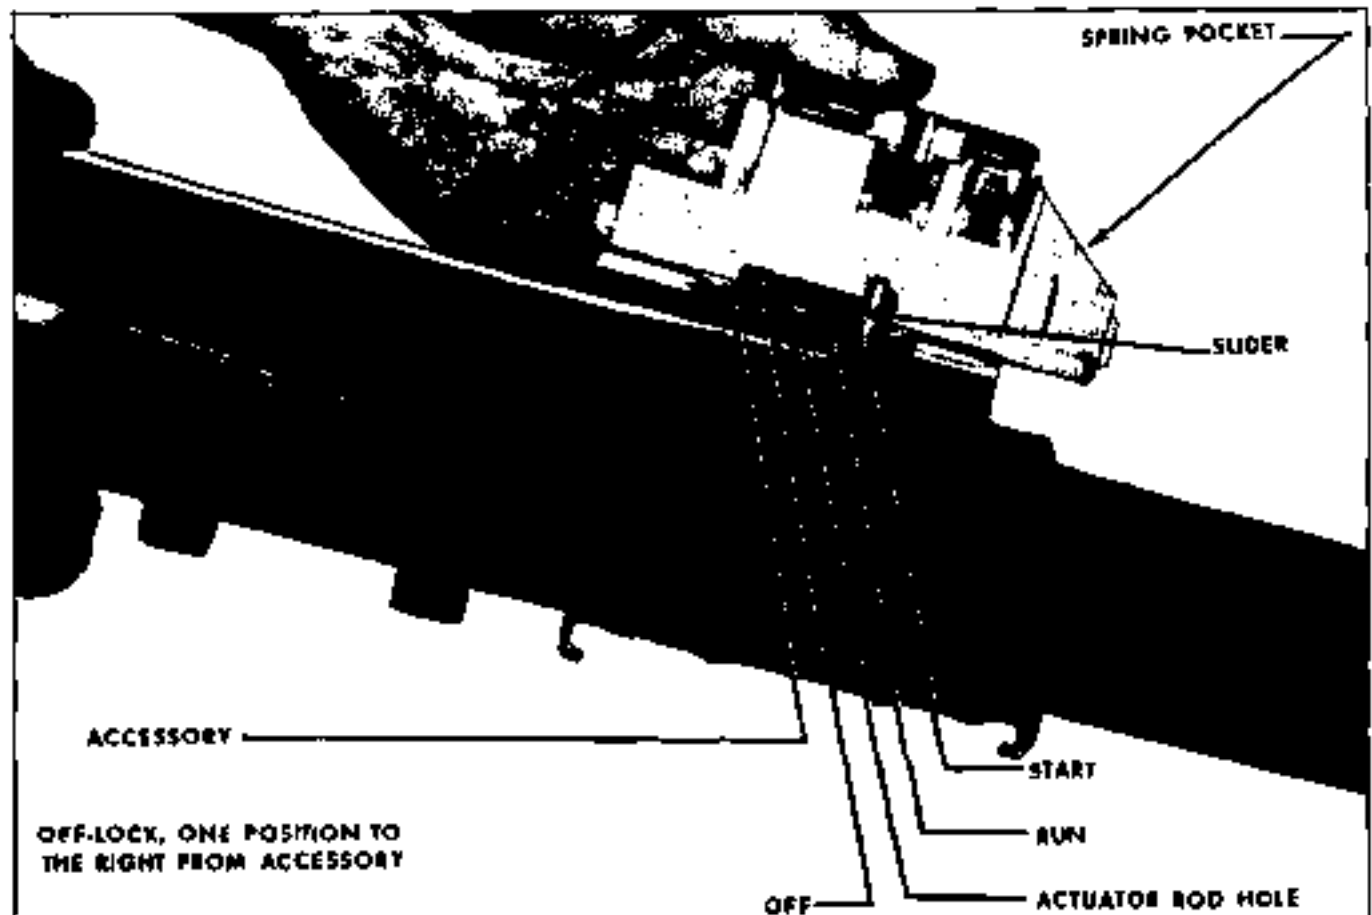

Fig. 12-33 Installing Ignition Switch
7. Move actuator rod hole in switch to OFF-LOCK position Fig. 12-33.